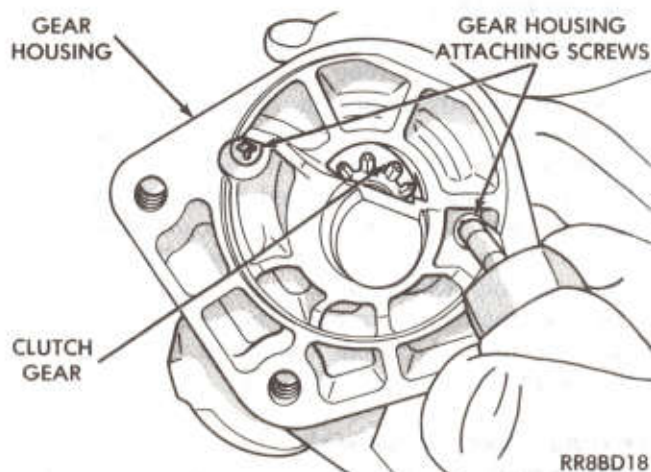
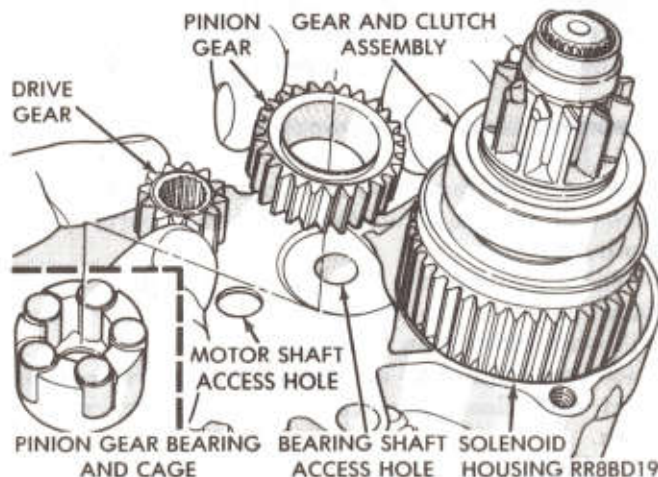
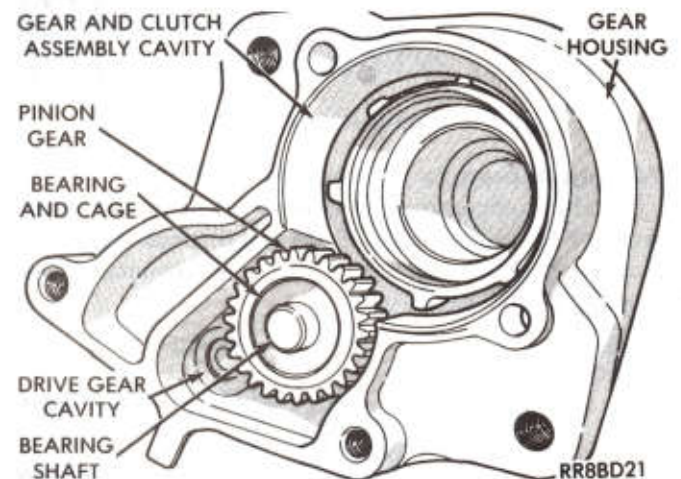

Fig. 13—Remove or Install Gear Housing (Typical)
Fig. 14—Remove or Install Drive and Pinion Gears
Fig. 15—Lubricate and Install Pinion Gear Bearing
(12) Remove the gear housing attaching (2) screws and separate the gear housing from the solenoid housing (Fig. 13). The pinion gear, pinion gear bearing, and drive gear will be loose between the solenoid housing and the gear housing (Fig. 14). When reinstalling pinion gear and bearing, wipe with a clean rag and coat with lightweight high temperature wheel bearing grease. Place the lubricated bearing and gear over bearing shaft in the gear housing (Fig. 15).